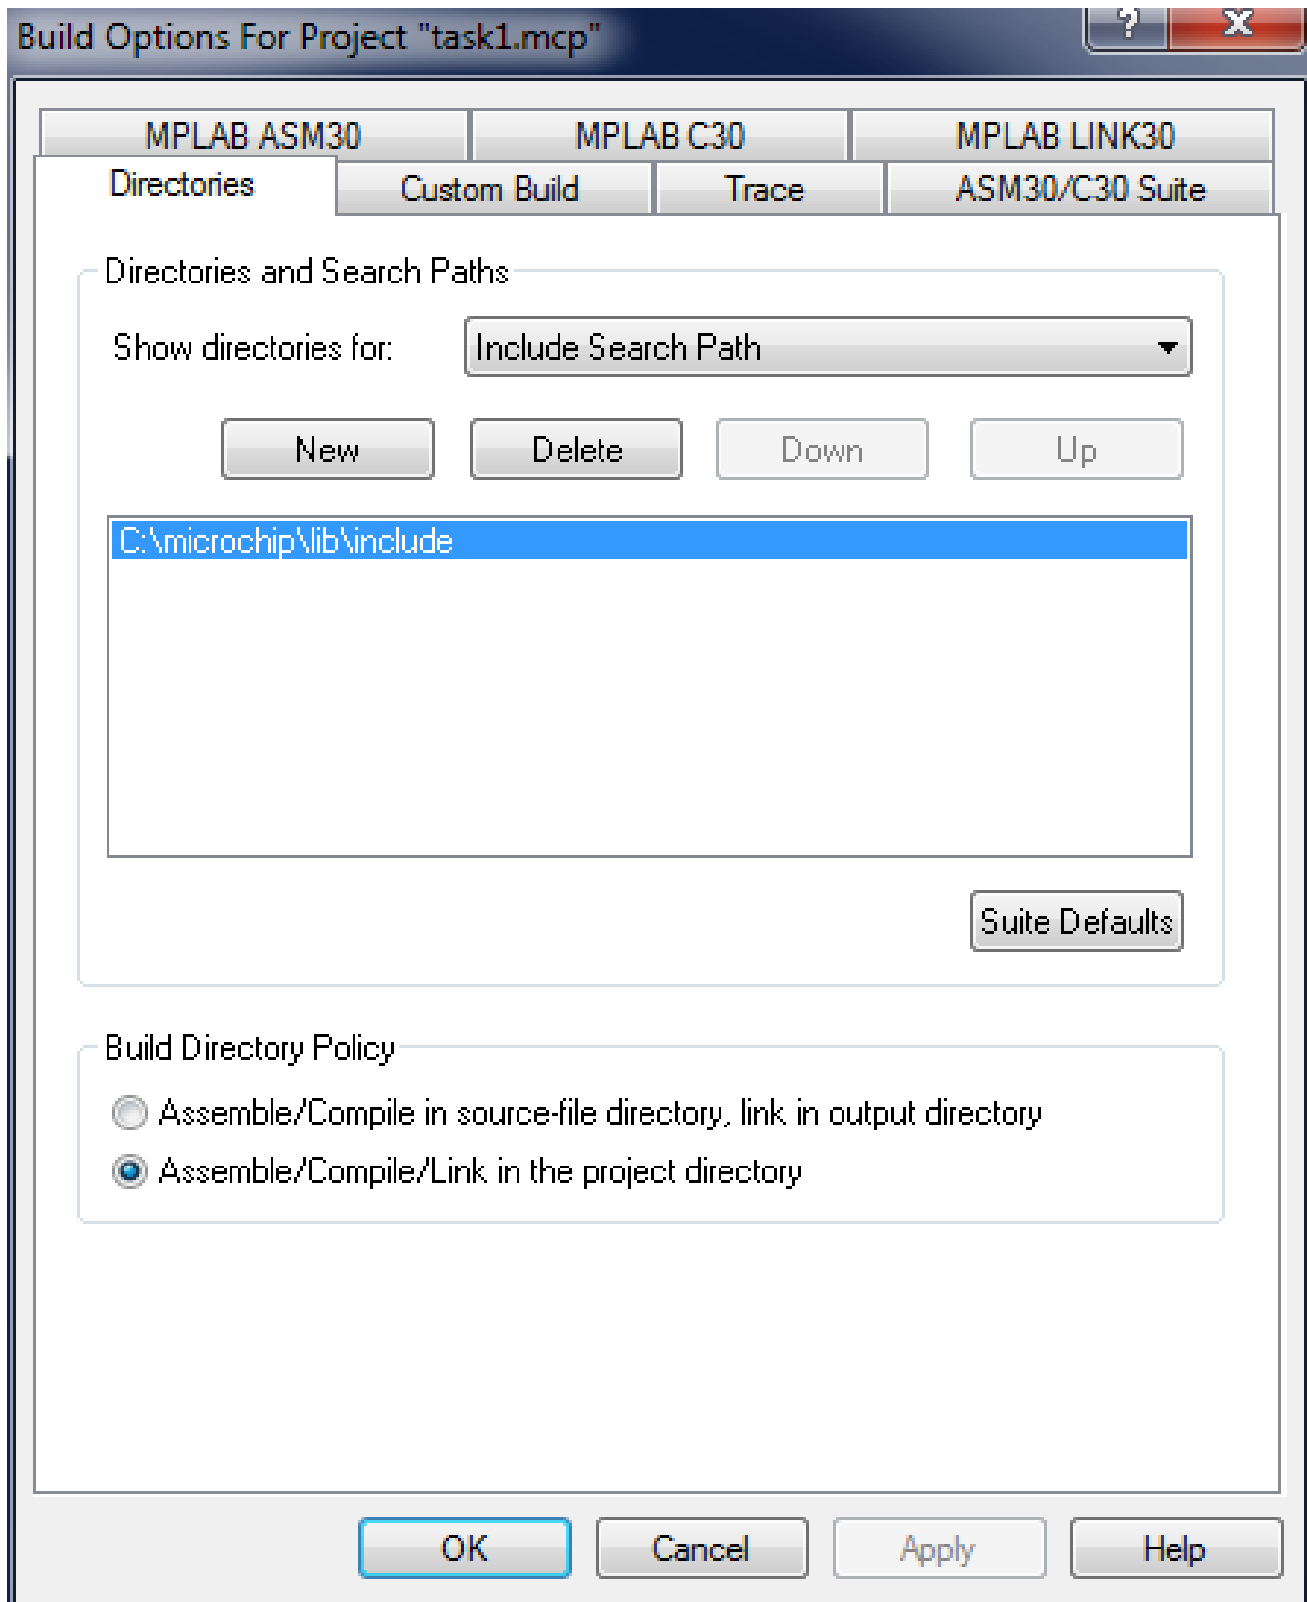

Figure 1. Include Search Path Directory.
- After the project is open, use *Project->Build Options* to add the *C:\microchip\lib\include* directory to the *Include Search Path* directory as shown in Figure 1 below.